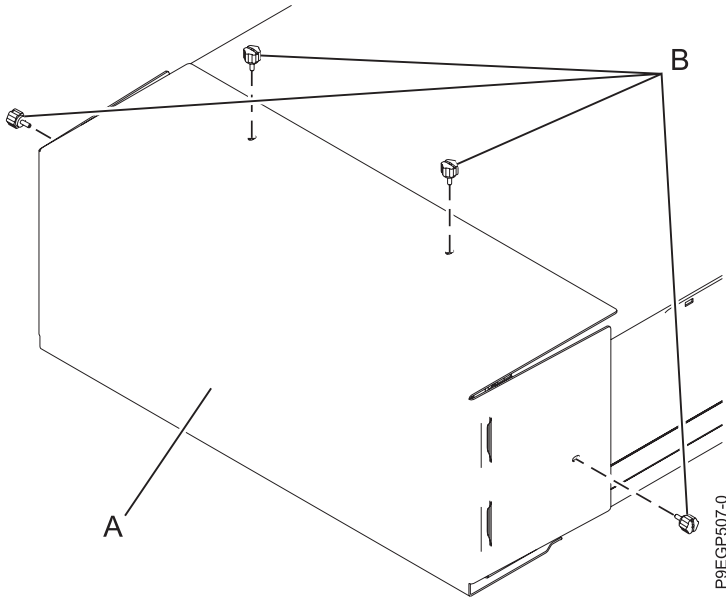

Figure 7. Removing the shipping cover
2. Remove the four thumb screws **(B)** that are used to secure the shipping cover **(A)** to the rear of the drawer, as shown in Figure 7. Remove the shipping cover.